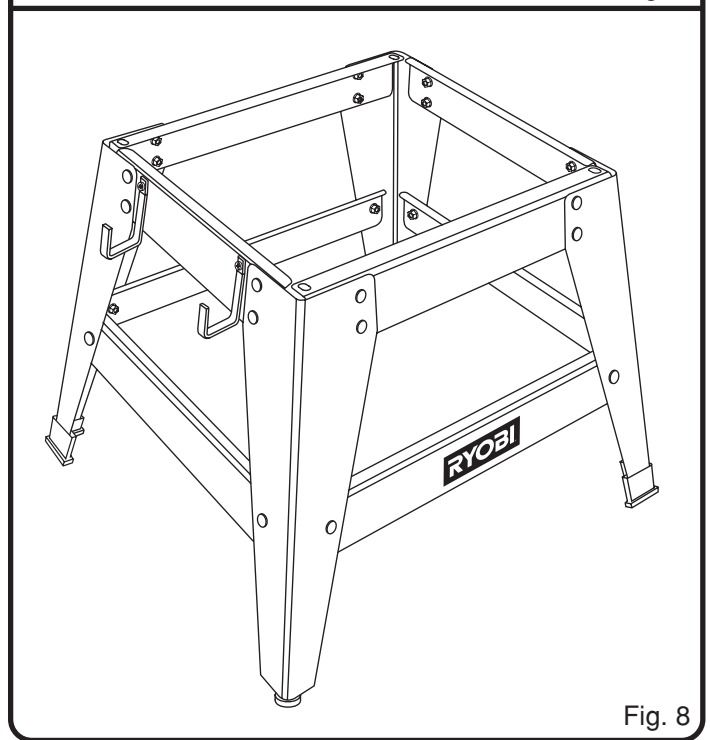

Fig. 8
**Note:** Upper braces have large holes in each end; these holes should be on top when leg stand is completely assembled as shown in figure 8.